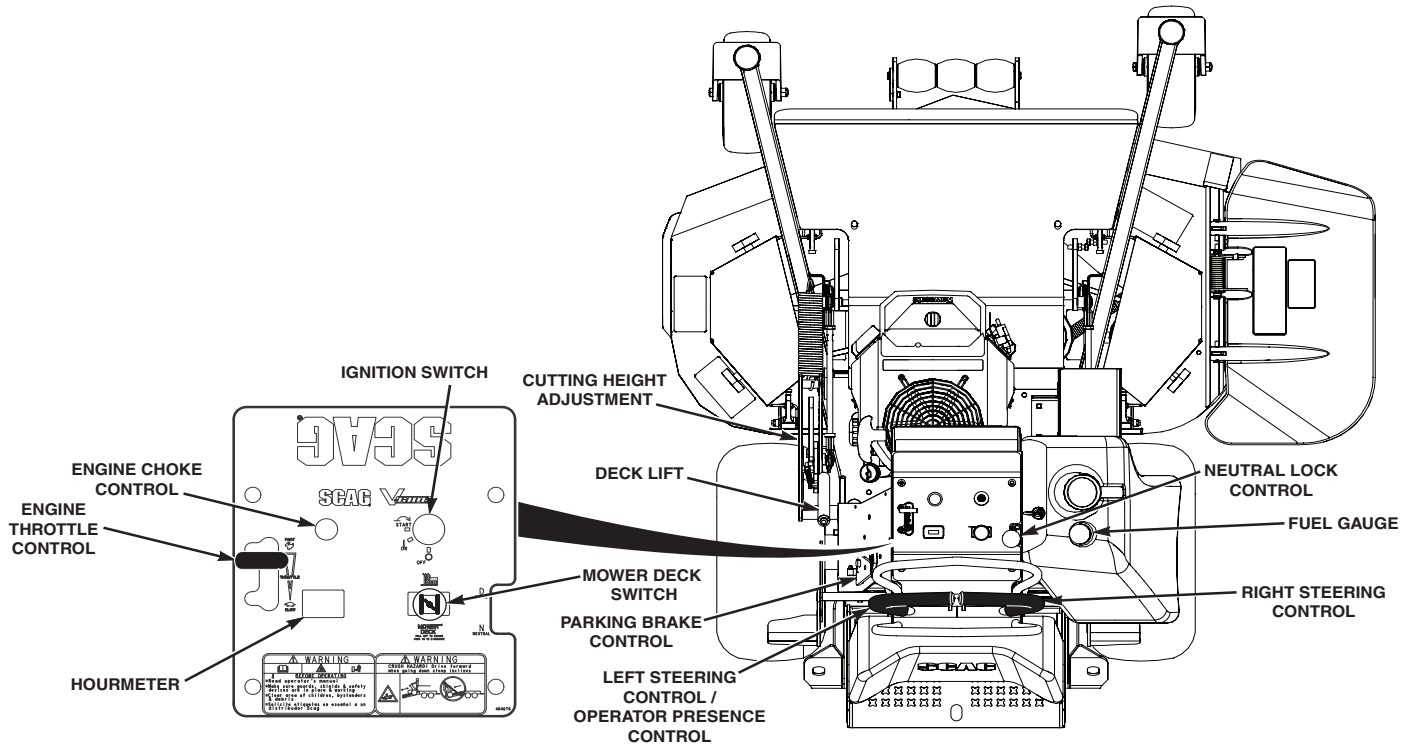

Figure 4-1. Controls and Instruments
1. **Ignition Switch (Figure 4-1).** The ignition switch is used to start the engine and has three positions; OFF, ON, and START.
2. **Mower Deck Switch (Figure 4-1).** Used to engage and disengage the mower drive system. Pulling up on the switch will engage the deck drive. Pushing down on the switch will disengage the deck drive.
3. **Engine Choke Control (Figure 4-1).** Used to start a cold engine.
4. **Engine Throttle Control (Figure 4-1).** Used to control the engine speed. Pushing the lever forward increases engine speed. Pulling the lever back decreases engine speed. Full back position is the IDLE position. Full forward is the cutting position.
5. **Hourmeter (Figure 4-1).** Indicates the number of hours the engine has been operated. It operates whenever the engine is running. Has preset maintenance reminders for engine and hydraulic system oil changes. Will start flashing scheduled maintenance 2 hours before preset time and continue flashing until 2 hours after. Automatically resets.
Control (Figure 4-1). Used to control the mower's left wheel when traveling forward or reverse. See Section 4.5 for further details regarding the mower's travel controls. The operator presence control must be depressed before the neutral lock lever is shifted out of the neutral position (N) or engaging the mower deck.
7. Right Steering Control (Figure 4-1). Used to control the mower's right wheel when traveling forward or reverse. See Section 4.5 for further details regarding the mower's travel controls.
8. Neutral Lock Lever (Figure 4-1). Used to disengage the mower drive in the neutral lock position (N) or to engage to the mower's drive in the drive position (D). See Section 4.5 for further details regarding the mower's travel controls.
9. Parking Brake Control (Figure 4-1). Used to engage and disengage the parking brakes. Pull the lever back to engage the parking brakes. Push the lever forward to disengage the parking brakes.
10. Deck Lift Lever (Figure 4-1). Used to raise and lower the cutter deck.
11. Cutting Height Adjustment (Figure 4-1). Used to set the cutter deck at the desired cutting height.
12. Fuel Tank Gauge (Figure 4-1). Indicates the amount of fuel in the fuel tank.